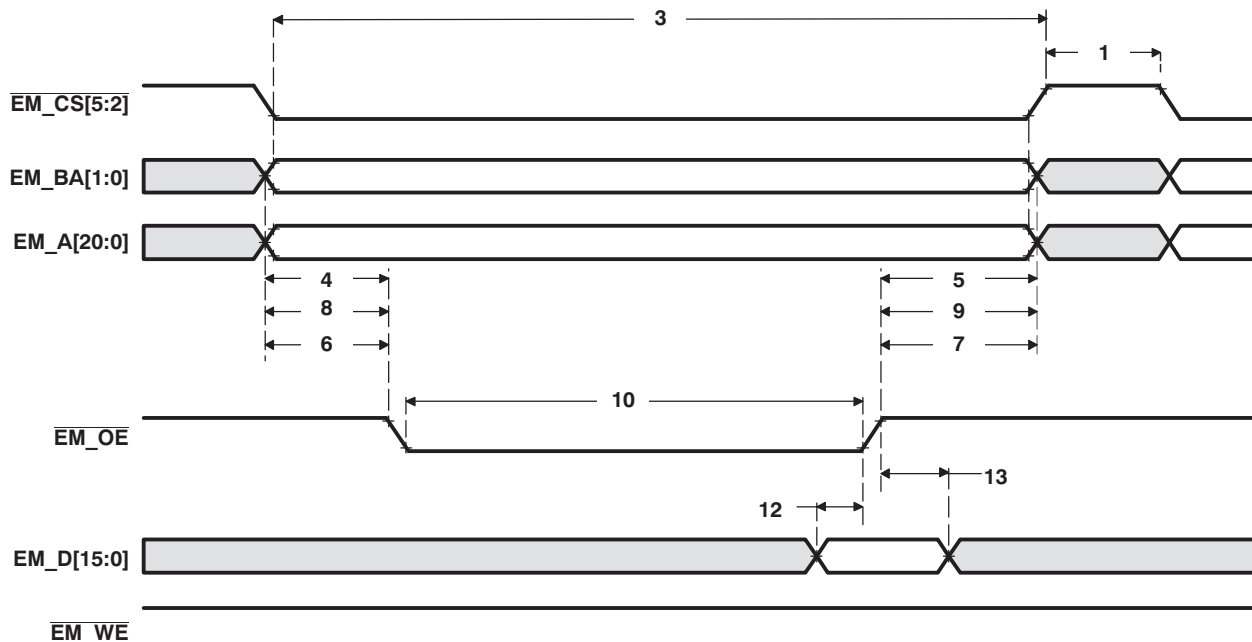
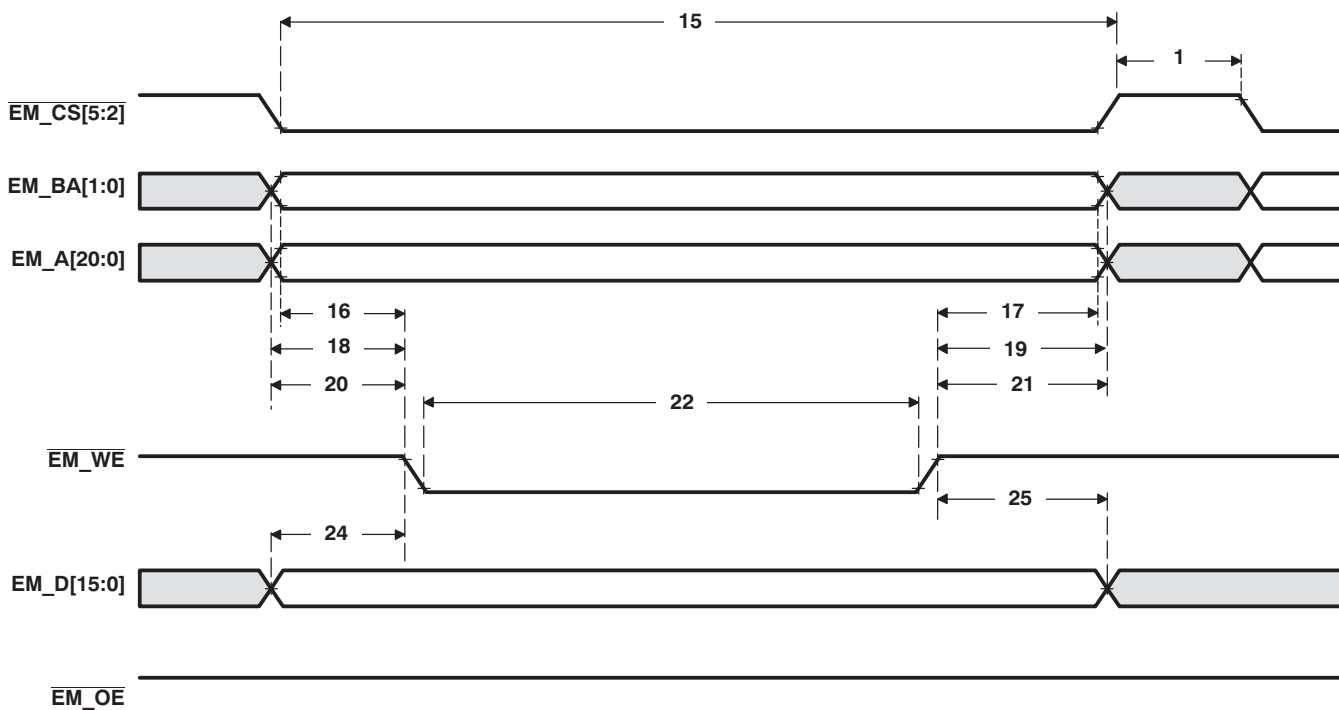
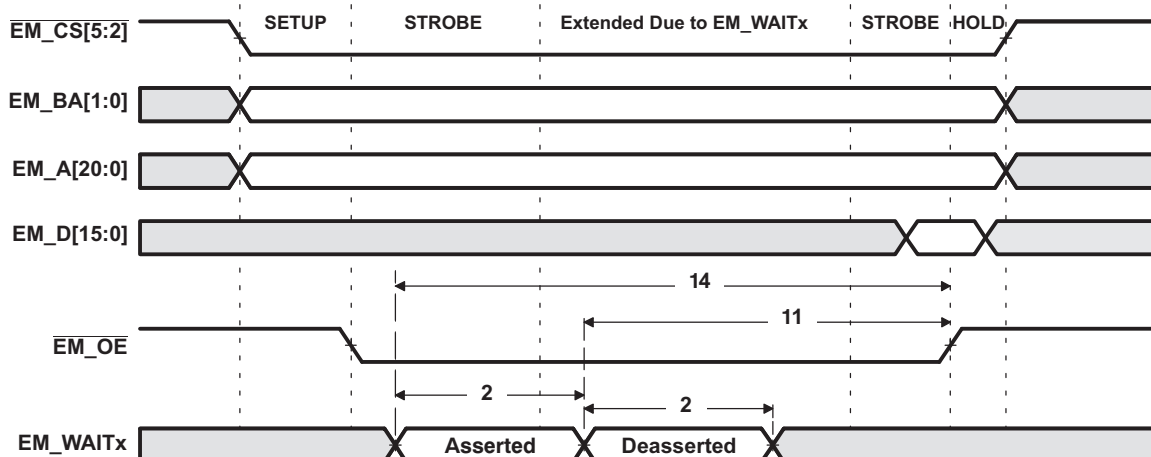
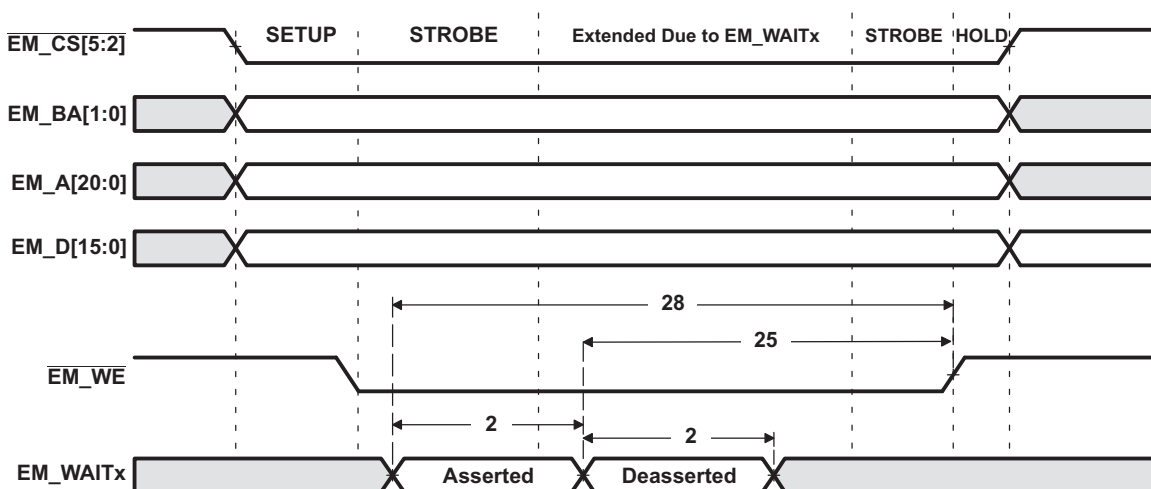

Figure 6-14. Asynchronous Memory Read Timing for EMIF
Figure 6-15. Asynchronous Memory Write Timing for EMIF
Figure 6-16. EM\_WAITx Read Timing Requirements
Figure 6-17. EM\_WAITx Write Timing Requirements
**Table 6-13. Switching Characteristics Over Recommended Operating Conditions for EMIF Asynchronous Memory(1) (2) (see Figure 6-15 and Figure 6-17)(3)**
(1) TA = Turn around, RS = Read setup, RST = Read strobe, RH = Read hold, WS = Write setup, WST = Write strobe, WH = Write hold, MEWC = Maximum external wait cycles. These parameters are programmed via the Asynchronous Configuration and Asynchronous Wait Cycle Configuration Registers.
(2) E = SYSCLK period in ns, if EMIF is set for "full rate" or E = SYSCLK/2 period in ns, if EMIF is set for "half rate" as defined by bit 14 of the EMIF Status register (0x1001h). For example, when EMIF is set to full rate and SYSCLK is selected and set to 100 MHz, E = 10 ns.
(3) EWC = external wait cycles determined by EM\_WAITx input signal. EWC supports the following range of values EWC[256-1]. Note that the maximum wait time before timeout is specified by bit field MEWC in the Asynchronous Wait Cycle Configuration Register.
**Table 6-13. Switching Characteristics Over Recommended Operating Conditions for EMIF Asynchronous Memory (1) (2) (see Figure 6-15 and Figure 6-17) (3) (continued)**
**Table 6-14. Timing Requirements for EMIF Asynchronous Memory(1) (see Figure 6-14, Figure 6-16, and Figure 6-17)**
- (1) E = SYSCLK period in ns, if EMIF is set for "full rate" **or** E = SYSCLK/2 period in ns, if EMIF is set for "half rate" as defined by bit 14 of the EMIF Status register (0x1001h). For example, when EMIF is set to full rate and SYSCLK is selected and set to 100 MHz, E = 10 ns.
- (2) Setup before end of STROBE phase (if no extended wait states are inserted) by which EM\_WAITx must be asserted to add extended wait states. Figure 6-16 and Figure 6-17 describe EMIF transactions that include extended wait states inserted during the STROBE phase. However, cycles inserted as part of this extended wait period should not be counted; the 4E requirement is to the start of where the HOLD phase would begin if there were no extended wait cycles.
**Table 6-15. Switching Characteristics Over Recommended Operating Conditions for EMIF Asynchronous Memory(1) (2) (3) (see Figure 6-14, Figure 6-16, and Figure 6-17)**
**Table 6-15. Switching Characteristics Over Recommended Operating Conditions for EMIF Asynchronous Memory (1) (2) (3) (see Figure 6-14 , Figure 6-16 , and Figure 6-17 ) (continued)**